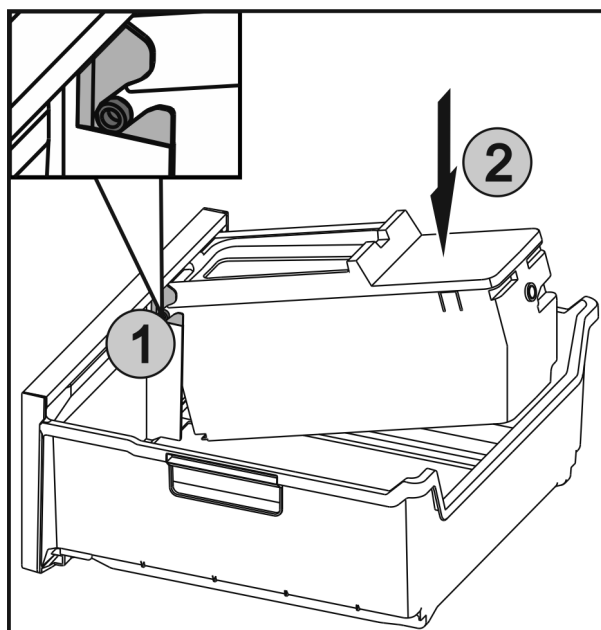

Fig. 33
- ▶ Insert the axles *Fig. 33 (1)* on the EasyTwist-Ice in the guides and push the rear side *Fig. 33 (2)* until the lug engages.